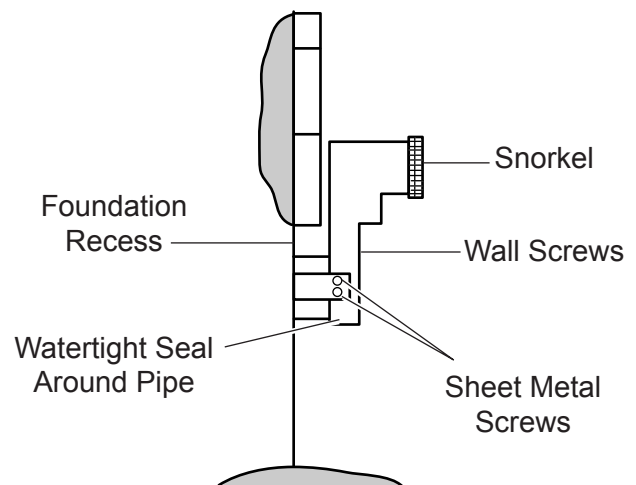

Figure 32 - Snorkel Installation, Recessed Foundation
If the foundation is recessed, use recess brackets (not supplied) for securing lower portion of the snorkel. Fasten brackets to wall first, then secure to snorkel with self drilling #8x1/2 sheet metal screws. It will be necessary to extend vent pipes out as far as the protruding wall face. *See Figure 32.*
NOTE: If an offset is needed to avoid obstructions, you must support the vent pipe every three (3) feet. Use wall straps for this purpose. See Figure 32, page 24. Whenever possible, use 45° elbows instead of 90° elbows. The 45° elbow offers less restriction to the flow of the flue gases and intake air.